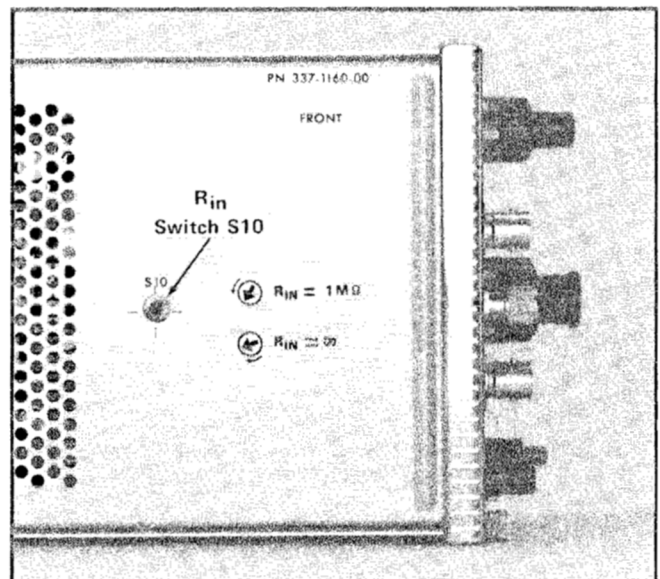

Fig. 5-1. Location of the  $R_{in}$  switch S10 on the Attenuator board.
1. Set the 7A13  $R_{in}$  switch, S10 (see Fig. 5-1), to the  $R_{in} = 1\text{ M}\Omega$  (counterclockwise) position.
$R_{in}$ (internal switch, S10, see Fig. 5-1)	$R_{in} = 1 M\Omega$ (see Preliminary Procedure, step 1)